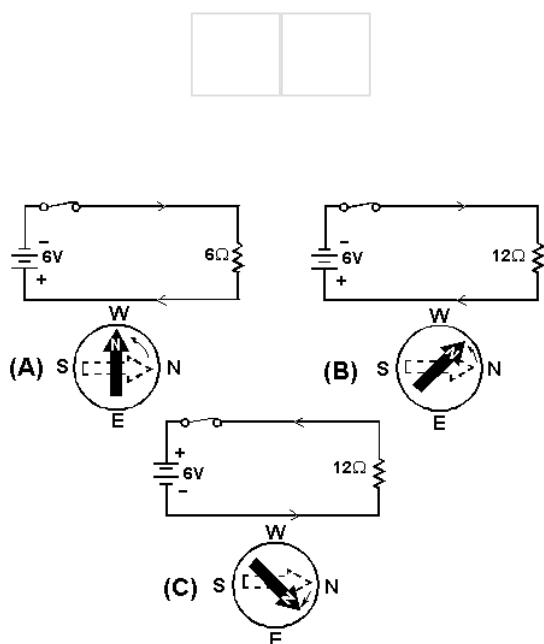

Figure 1-2.—Compass and conductor with direct current.
You know that an electrical conductor in which current flows has a magnetic field generated around it. If a compass is placed close to the conductor, the compass will react to that magnetic field (fig. 1-2).
If the battery is disconnected, the north end of the compass needle will point to magnetic north, as illustrated in figure 1-2(A) by the broken-line compass needle pointing to the right. When the battery is connected, current flows through the circuit and the compass needle aligns itself with the magnetic field of the conductor, as indicated by the solid compass needle. The strength of the magnetic field created around the conductor is dependent upon the amount of current.
In figure 1-2(A), the resistance in the circuit is 6 ohms. With the 6-volt battery shown, current in the circuit is 1 ampere. In figure 1-2(B), the resistance has been changed to 12 ohms. With the 6-volt battery shown, current in the circuit is $\frac{1}{2}$ or .5 ampere. The magnetic field around the conductor in figure 1-2(B) is weaker than the magnetic field around the conductor in figure 1-2(A). The compass needle in figure 1-2(B) does not move as far from magnetic north.
In figure 1-2(C), the battery connections are reversed and the compass needle now moves in the opposite direction.